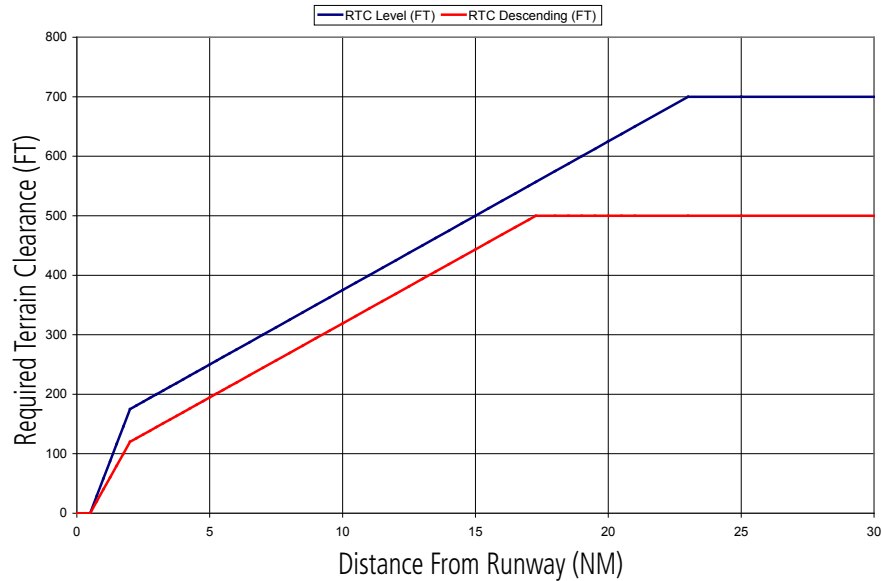

Figure 6-115 FLTA Alert Minimum Terrain and Obstacle Clearance Values
**Reduced Required Terrain Clearance (RTC)** and **Reduced Required Obstacle Clearance (ROC)** alerts are issued when the aircraft flight path is above terrain, yet is projected to come within the minimum clearance values in Figure 6-115. When an RTC alert is issued, a potential impact point is displayed on the TAWS-B Page.
**Imminent Terrain Impact (ITI)** and **Imminent Obstacle Impact (IOI)** alerts are issued when the aircraft is below the elevation of a terrain or obstacle cell in the aircraft's projected path. ITI and IOI alerts are accompanied by a potential impact point displayed on the TAWS-B Page. The alert is annunciated when the projected vertical flight path is calculated to come within minimum clearance altitudes in Figure 6-115.